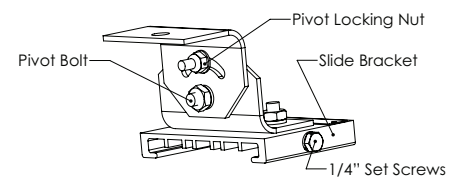

Figure 5. Swivel Mount Details
- Tighten the two (2) 1/4" set screws on each slide bracket until they bottom (see Figure 5). Torque to 78 in.-lbs. (8.8 N-m).
- Adjust the position of the fixture to the desired angle and tighten the two (2) 5/16" pivot bolts. Torque to 138 in.-lbs. (15.6 N-m).
- Tighten the two (2) 1/4" pivot locking nuts at the adjustment slots to 78 in.-lbs. (8.8 N-m).